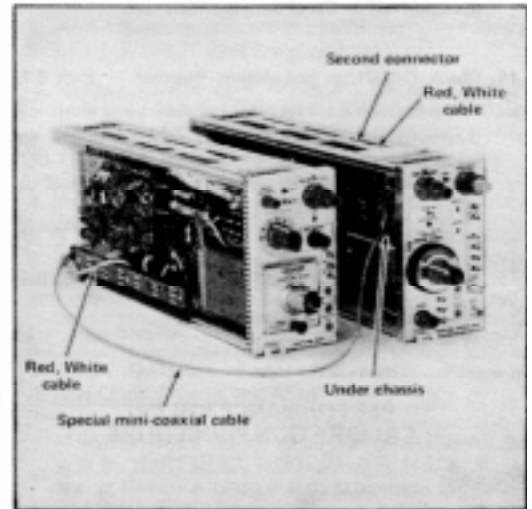

Fig. 6-2. Special connections for calibration.
a. Assemble the extender, the 7S11 and 7T11 at the 7504 Oscilloscope. Remove the minicoaxial connector at the top of the 7T11 (see Fig. 6-2) and insert the special mini-coaxial cable through the chassis (so the 7T11 can be installed in the oscilloscope) and connect it to the connector. Place the disconnected cable within the chassis and tape the connector to avoid contact with components. Remove the mini-coaxial connector on the 7S11 left side (Inter-Channel Control circuit board) and connect the special cable. This completes the oscillator control and strobe drive circuits. The 7S11 INT TRIG lamp will not be on when the 7T11 is at Int trigger.